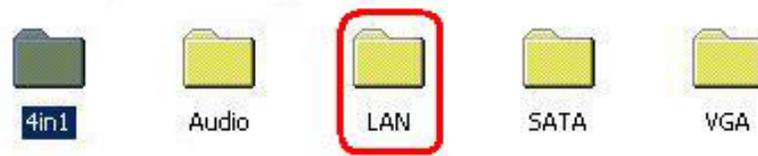

Figure 7-19: Access the LAN Driver Folder
Step 2: Open the “WAFER-MARK” folder. Open the “LAN” subfolder. (See **Figure 7-19**)